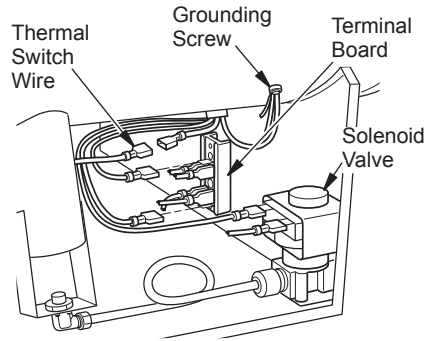

Figure 5 - Location of Motor Wires
21. Connect motor wires as follows (see Figure 5, page 7):